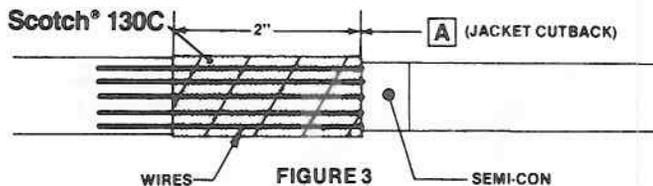

FIGURE 3
3. Wrap two half-lapped layers of 130C Tape over cable jacket for 2". See Figure 3. WRAP TACKY SIDE OUT AND HIGHLY ELONGATE.
4. Fold wires back over 130C Tape. DO NOT TWIST. See Figure 3.